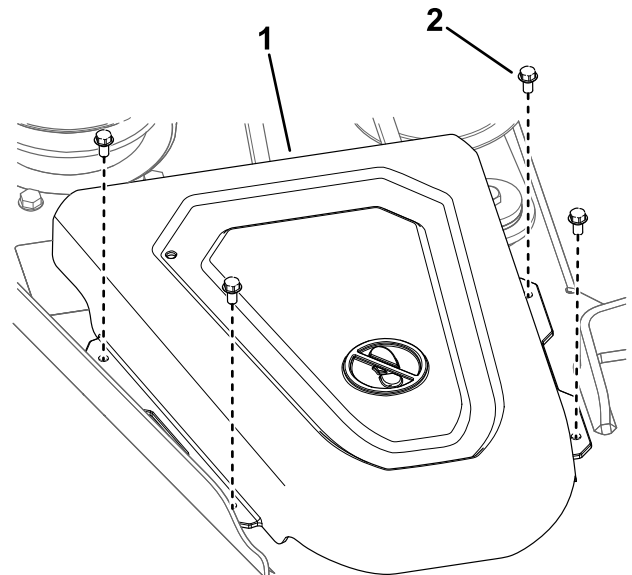

Figure 60
5. Remove the pulley covers (Figure 60).